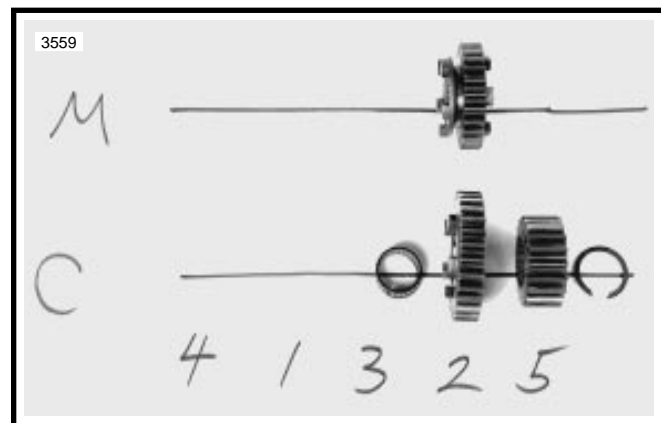

Figure 6-21.
3. See Figure 6-21. As each component is removed, place it on a clean surface in the exact order of removal.